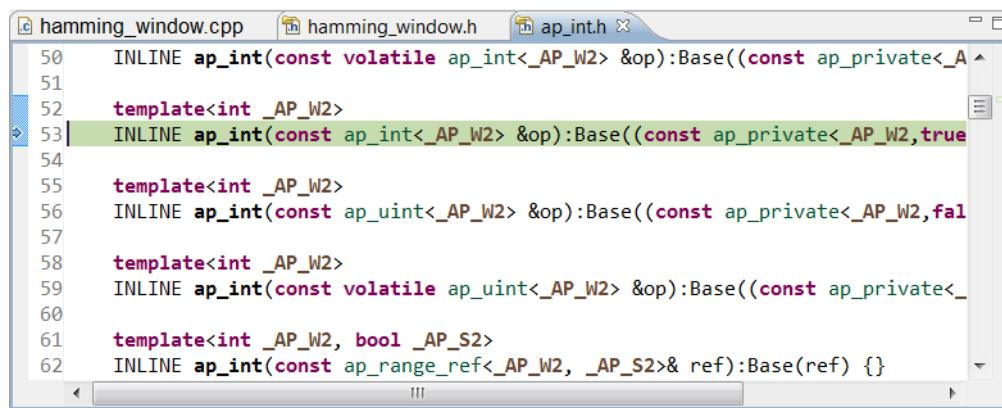

Figure 3-21: Arbitrary Precision Header File
7. Click the **Step Into** button (or press the **F5** key) twice to see the view in Figure 3-21.